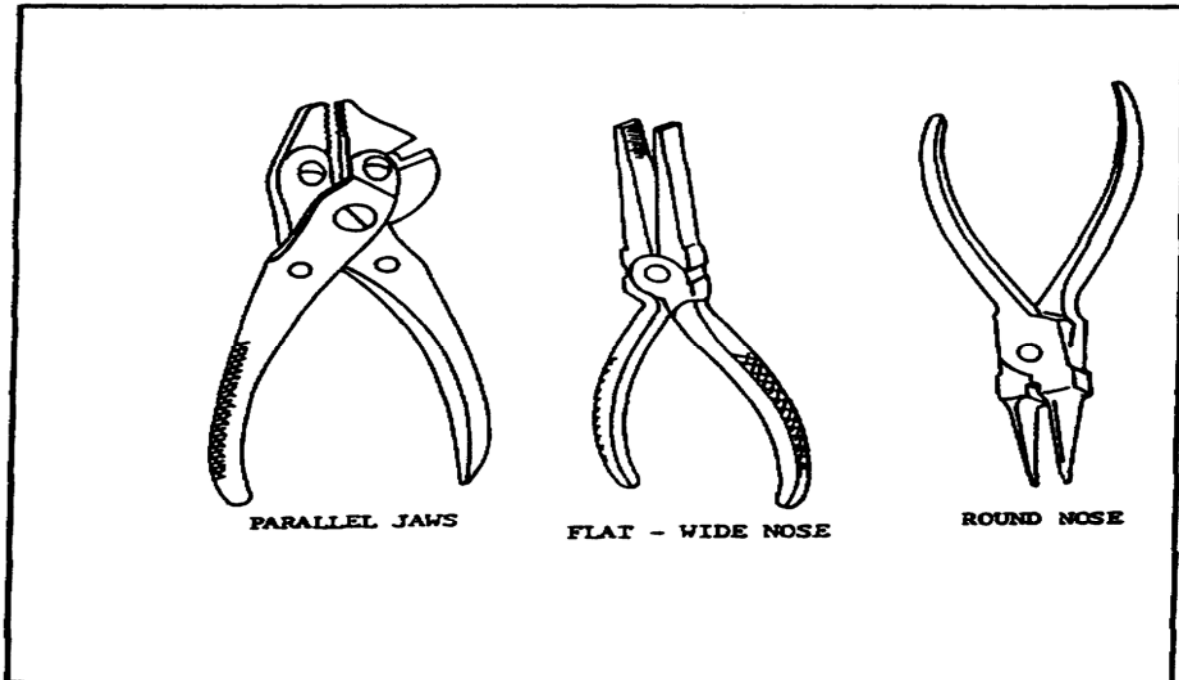

FIGURE 35. PARALLEL JAWS, FLAT, AND ROUND NOSE PLIERS.
(4) *Parallel Jaws, Flat, and Round Nose Pliers* (figure 35). These pliers are used to bend or form metal into various shapes and to work in limited spaces. The nose is made in a variety of widths and lengths. The parallel jaws pliers are supplied with or without side cutters.